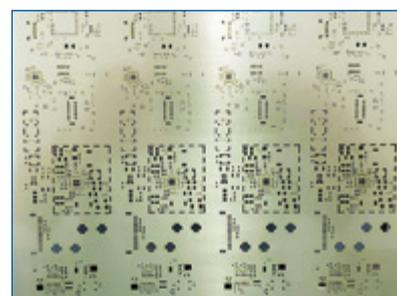

FIGURE 10. Bottom side of the stencil used for the evaluation.
- Customer's 5 mil-stencil, laser cut, and with nanocoating (Nanoslic) (FIGURE 10)